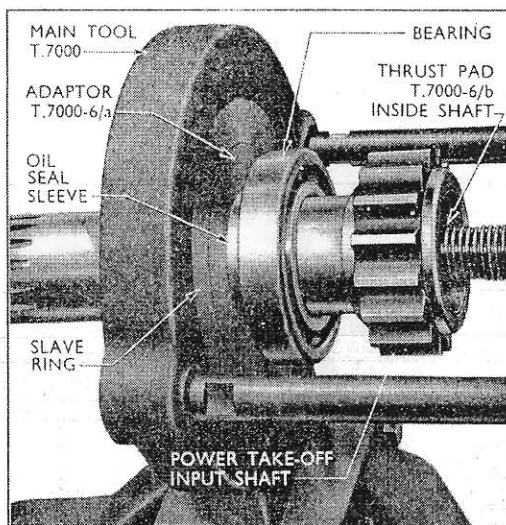

Fig. 24
23. Place the ball bearing and oil seal sleeve (chamfered corner of the outside diameter away from the bearing) onto the power take-off input shaft, followed by the ring adaptor T.7000-6/a. so that the end of the sleeve locates in the counter-bore in the adaptor. Fit the slave ring to Main Tool T.7000 and install the ring adaptor and shaft in the slave ring. Place the thrust pad T.7000-6/b in the bore at the gear end of the shaft, press the shaft into the bearing and sleeve (see Fig. 24) and retain with the appropriate circlip.